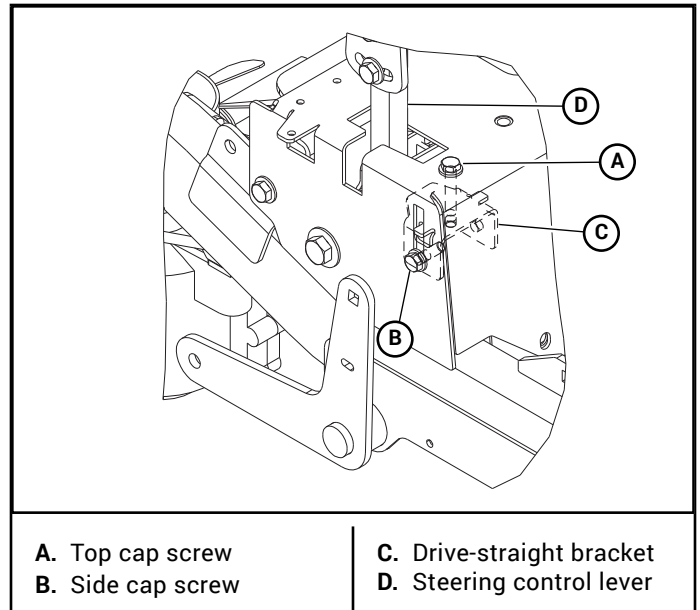

Figure 4-9
7. Loosen the side cap screw on the outside of the steering cover on the side that is rotating too fast. Tighten the top cap screw to adjust the drive-straight bracket up. This allows the steering control lever to make contact with the drive-straight bracket sooner. Repeat until both drive wheels are rotating at the same speed. Figure 4-9
8. Tighten the side cap screws on both the left and right sides to lock the drive-straight brackets in place. Snug the top cap screws to prevent loosening during operation. Figure 4-9